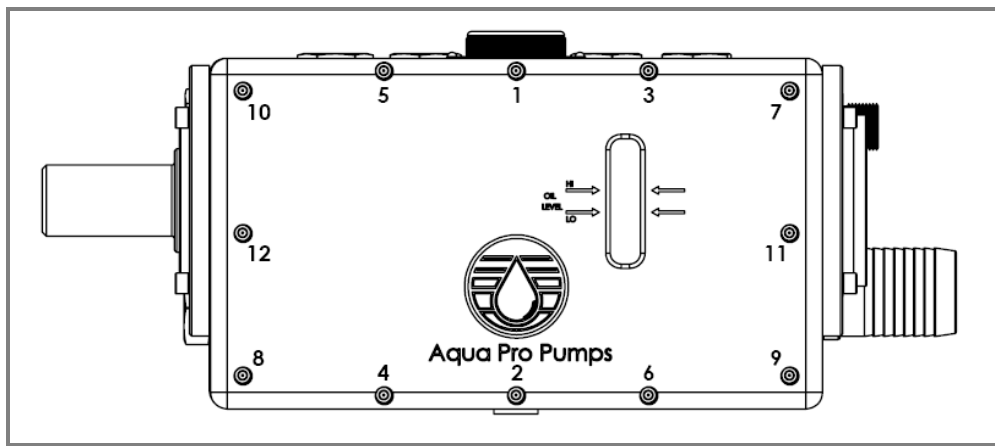

Fig. 7: Bolt tightening sequence
Install the sight glass (21) and the sight glass frame (22). Apply Red Loctite #262 to the 6 sight glass retaining screws (23) and tighten. Reinstall the crankcase cover (19) and tighten the 10 crankcase cover screws (24) with the 3/16" Allen wrench in the sequence shown in Fig. 7.